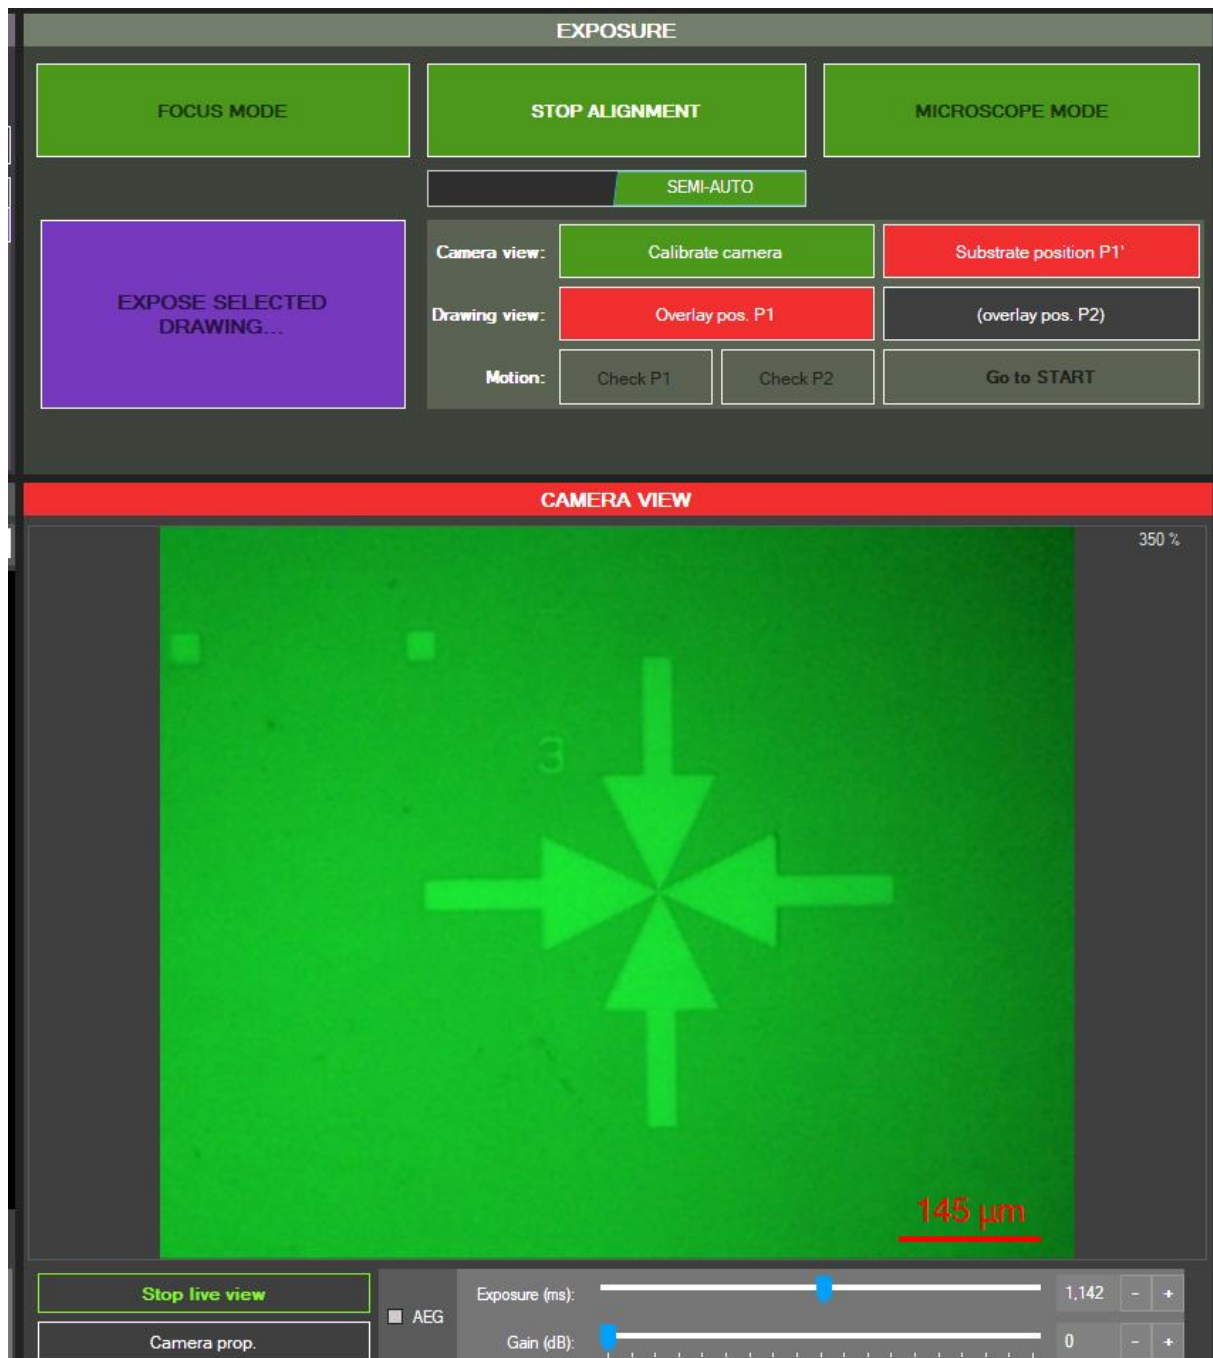

Figure 54 - Semi-auto alignment: defining point P1'
- Selection of point P1' (Figure 52b): click on **Substrate position P1'**. As for the previous step, the camera live view may start and the mouse cursor shape may change. Move the stage (see section 4.1.1) until the first patterned cross is visible (numbered "1" in this example), then click on its center (point P1') as shown in Figure 54